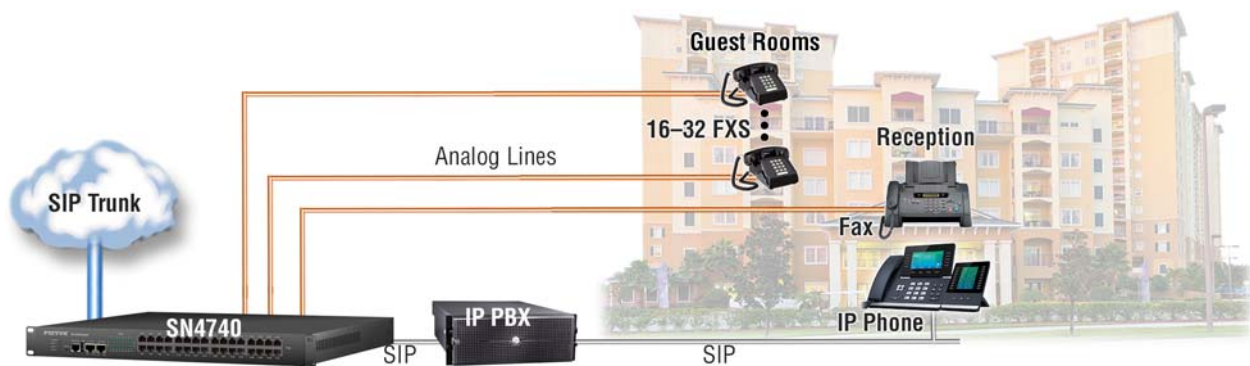

Figure 5. Hospitality venues: hotels, motels, etc.
- Hospitality venues such as hotels, motels, etc. (see figure 5)